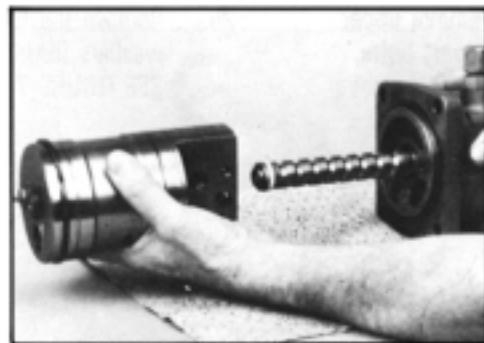

Figure 65
21. Remove rack piston (39) from worm shaft (23) subassembly. SEE FIGURE 65.
**NOTE:** Do not remove rack piston ring (39A) or poppet (31) components from the rack piston unless replacement is necessary.